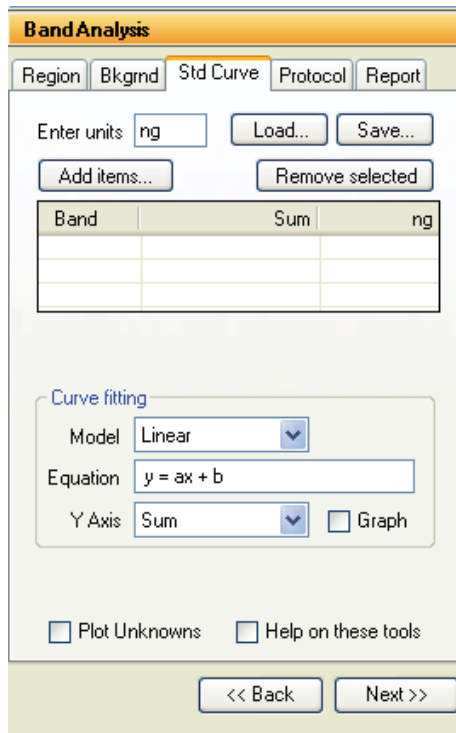

Figure 11. The Band Analysis Module showing the Standard Curve tab.
6. Standard Curve. The tab in the Band Analysis toolbox labeled Std Curve opens a set of tools that create a calibration curve for applications such as quantitative PCR and Western Blot band quantitation (Figure 11). The calibration curve functions allow quantitation of the bands based on a set of standards. A minimum of two standard bands must be specified, but the accuracy of the calibration curve increases as the number of standard bands and their range of values increases.